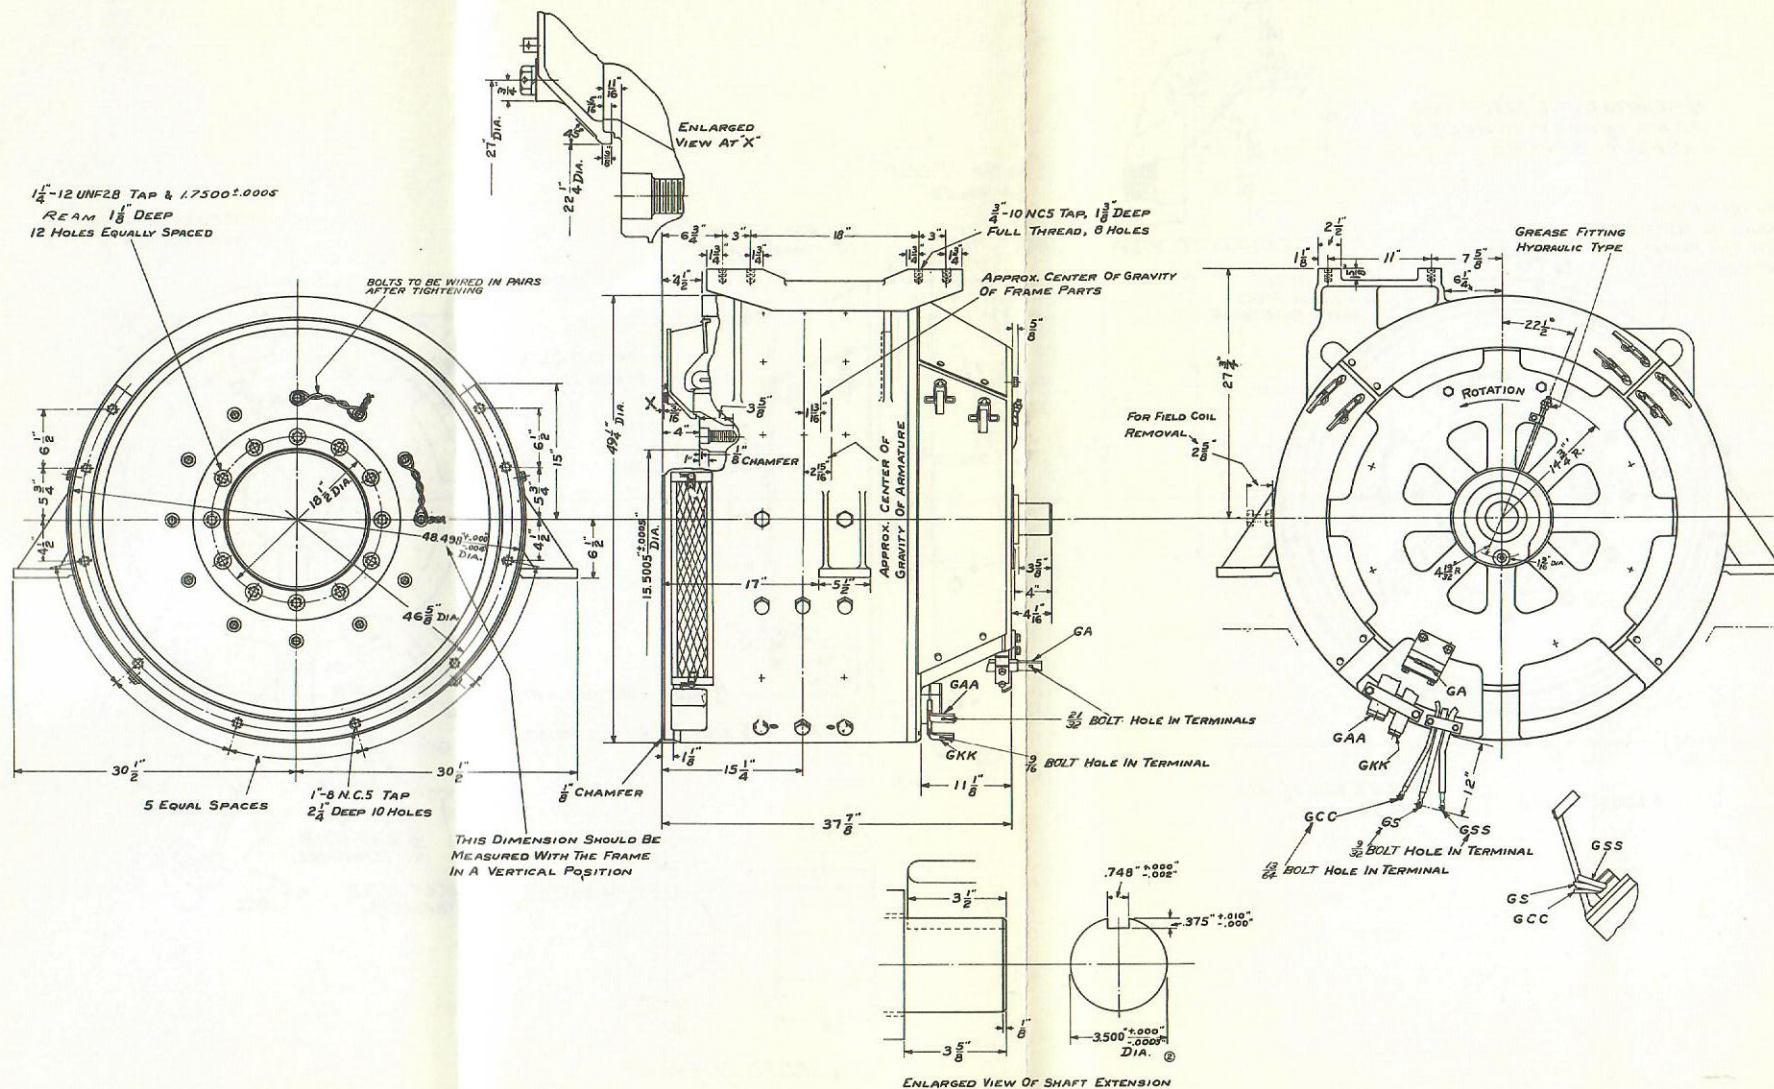
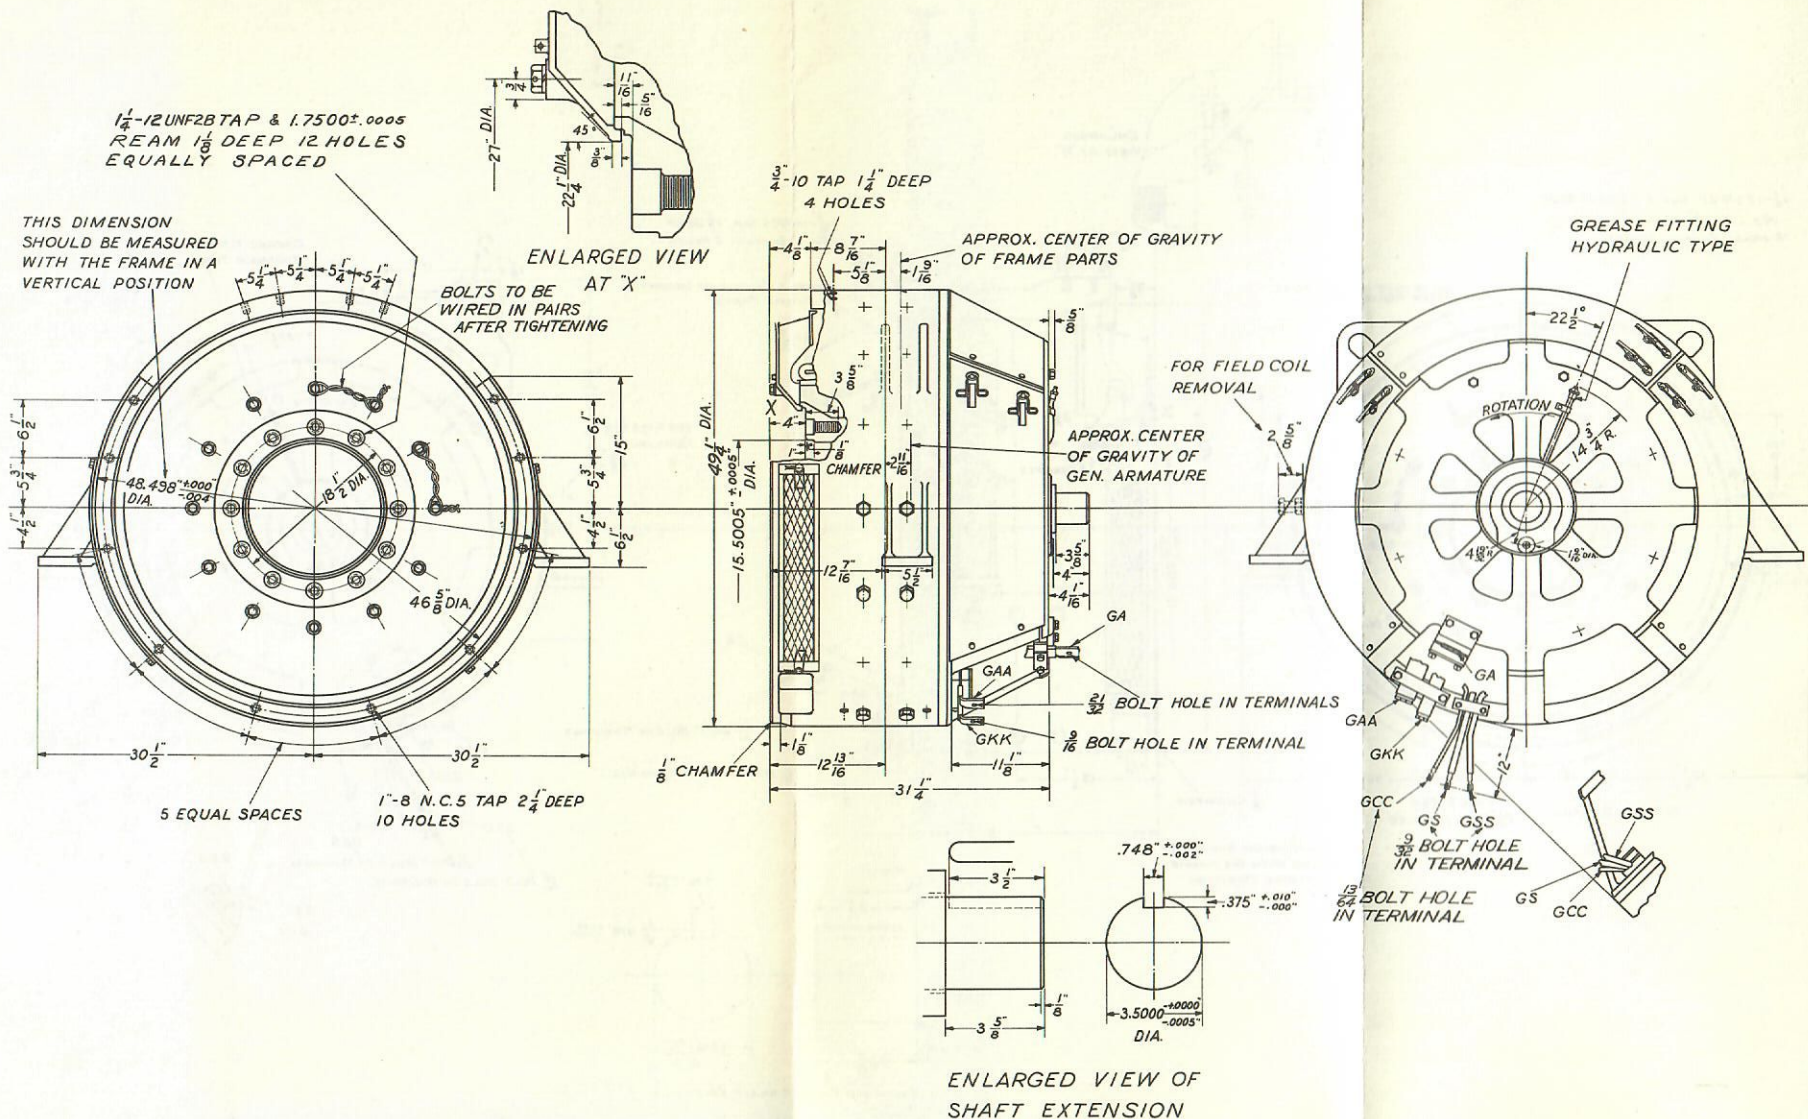

Fig. 11-9
Fig. 10-9
6. Assemble fan on coupling flange and, after tightening bolts, wire bolt heads together in pairs. See outline, Fig. 10-9 or Fig. 11-9.